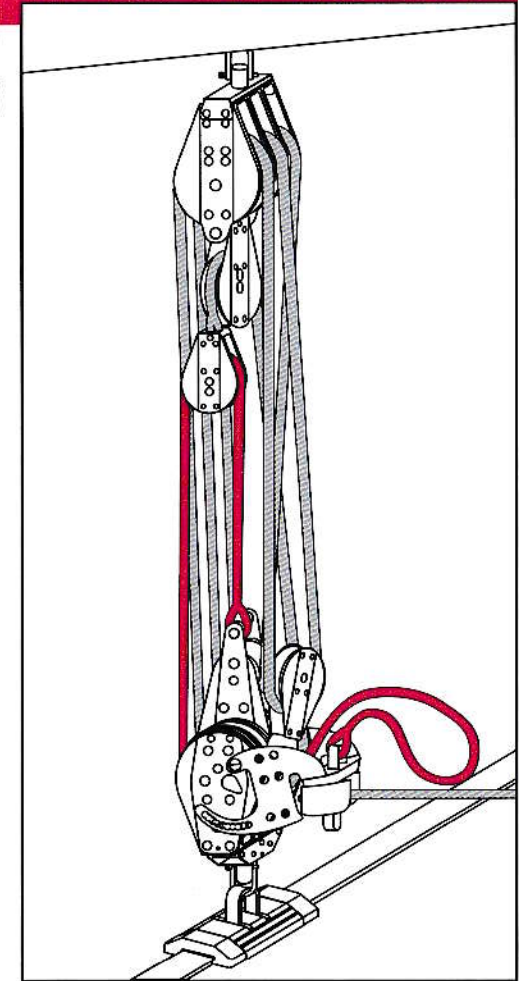

Figure 3: To rapidly ease, play out the sheet so ball hits the deck block. Now you can ease the sheet quickly in gross-trim.
- Sheet out. Once you ease enough line, the plastic ball will contact the deck block (**Figure 3**). Line will slip over Hexaratchet sheave 1 and you will be in gross-trim mode.
Bear off and let out the mainsheet. When the plastic ball stops at the deck block (**Figure 3**), you are in gross-trim. Continue to play out the mainsheet in gross-trim with the plastic ball stopped. As soon as you pull the sheet in, you are in fine-tune. This is perfect for power reaching as you can easily play the main in fine-tune.